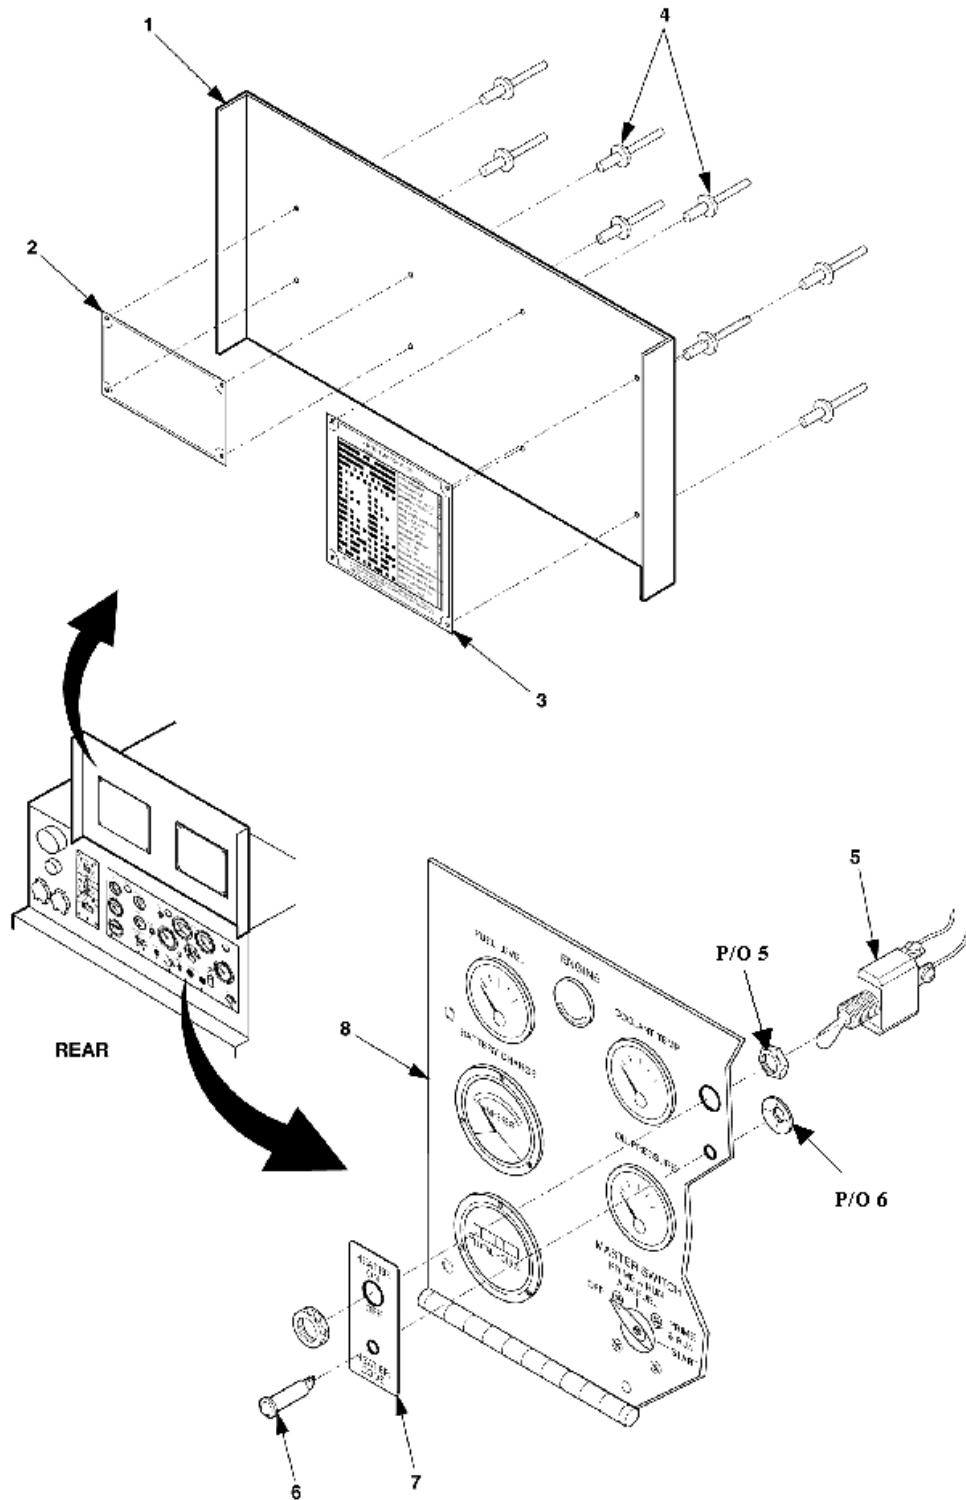

Figure 4-35. Cover And Instrument Panel
7. Remove toggle switch (5), Figure 4-35, indicator light (6), and heater switch lable(7) from instrument panel (8). Remove rivets (4) from operating plate (2) and function code plate (3). Remove operating and function code plate (2 and 3) from control panel door (1).